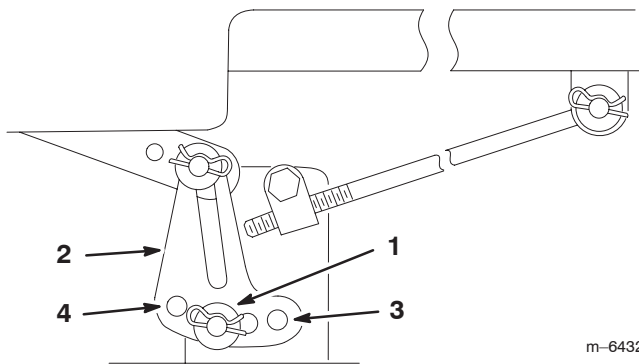

Figure 38
- Remove the hairpin cotter and washer from the leveling bracket (Fig. 38).
- To level the blade(s), reposition the leveling bracket(s) in a different hole and install the washer and hairpin cotter. (Fig. 38). A front hole lowers the blade height and a rear hole raises its height. Adjust both sides as required.